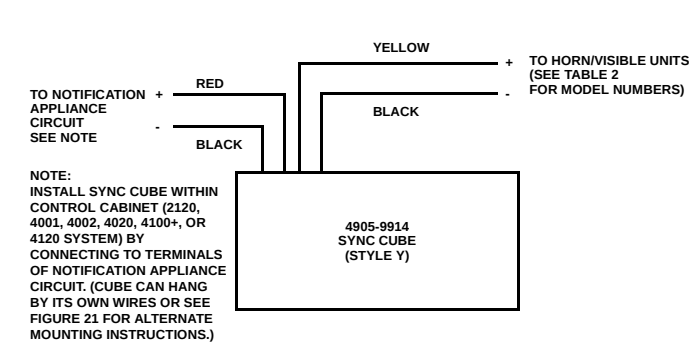
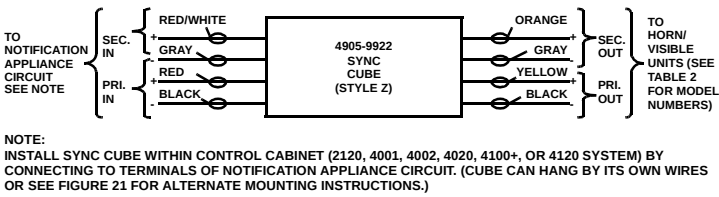

Figure 8. Style Y Wiring for Synchronizing 1Hz Horn/Visible Units
Figure 9. Style Z Wiring for Synchronizing 1Hz Horn/Visible Units
3. To synchronize 1Hz Horn/Visible Units (60 flashes per minute), see Figure 8 (Style Y wiring) or Figure 9 (Style Z wiring)